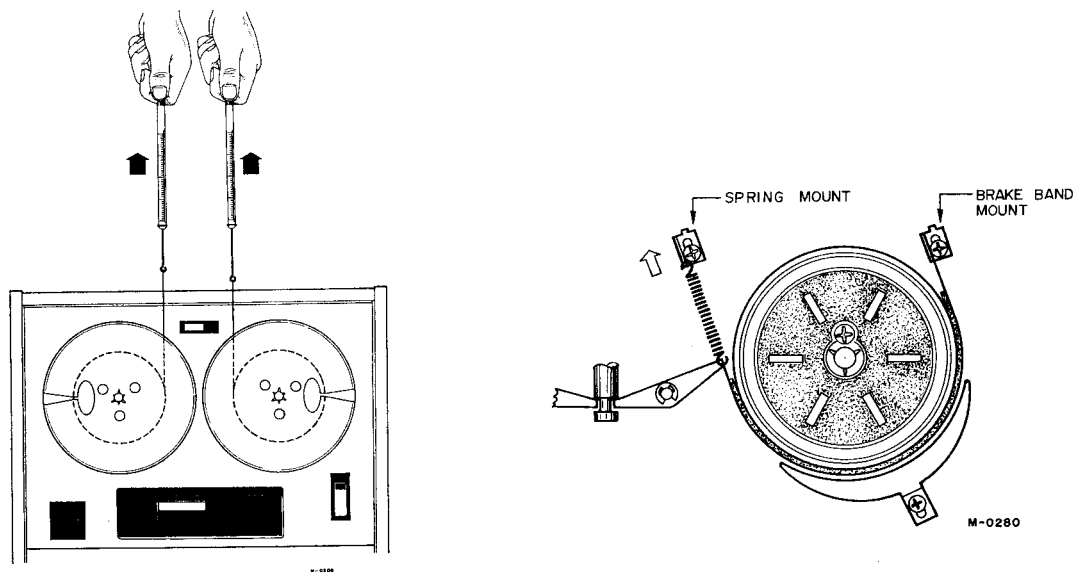

Fig. 6-4 Torque Measurement and Adjustment Location
2. Depress ◀ or ▶ button, depress STOP key, observe that both reel turntables stop at exactly the same instant. If they do not, adjust the appropriate brake band spring mount as required. (Refer to Fig. 6-4 Adjustment Location.)
1. With power off, manually depress the brake solenoid plunger, brake band to drum clearance should be 1~2mm. Adjust to proper clearance by repositioning the brake band mount. (Refer to Fig. 6-4.)